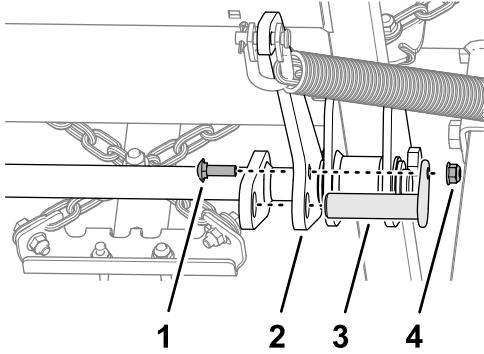

Figure 16
2. Remove the carriage bolt and flange locknut that secures the cylinder pin to the lift-shaft arm (Figure 16).